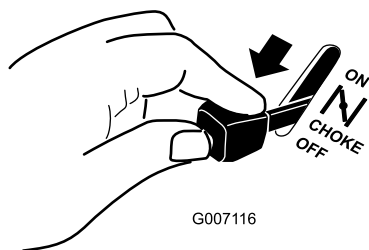

Figure 22
5. Gradually move the choke lever to the Off position (Figure 22). If the engine stalls or hesitates, engage the choke again until the engine warms up.